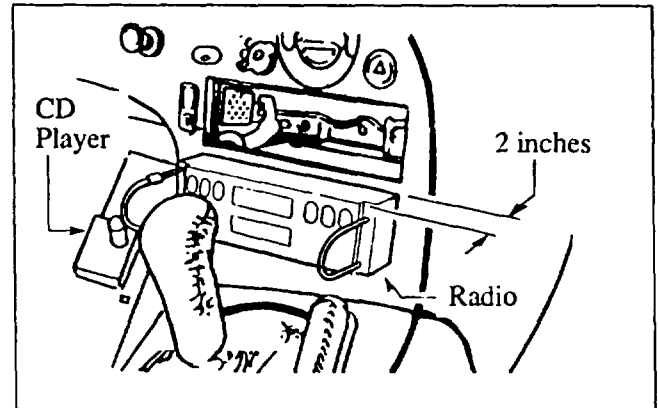

**Figure 4:** *CD Player Removal*
6. Push the stereo removal tool, SST (Part No. 49 UN01 050), into the holes on the sides of the CD player until it locks firmly. **Figure 4.**